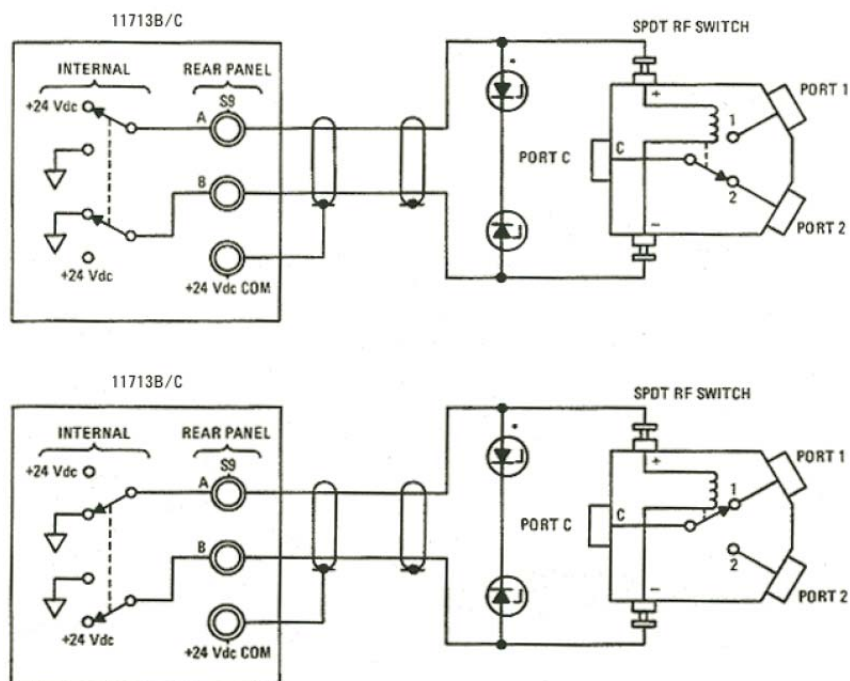

Figure 2-6 Typical connection for 8761 series coaxial switches
- Figure 2-6 illustrates the rear panel connections to S9 outputs and the corresponding switch positions reflected by pushbutton indicators.